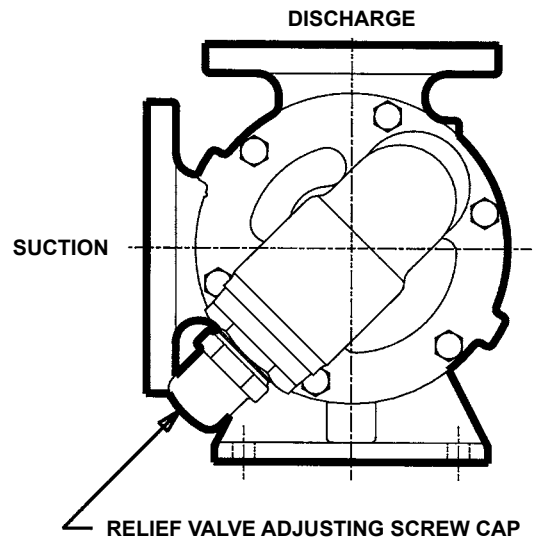

FIGURE 3
3. Relief valve adjusting screw cap must always point towards suction side of pump. If pump rotation is reversed, remove pressure relief valve and turn end for end (See "Pump Rotation" on page 10 for additional steps required for proper operation). See Figure 3.